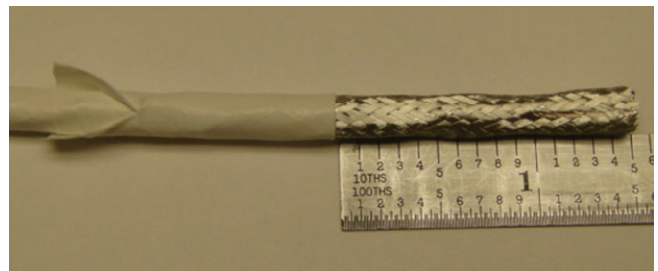

Figure 30: Exposing the braid
5. Using needle-nose pliers, gently pull the outer jacket down the cable until you have exposed approximately 1.5 inches of braid (Figure 30).